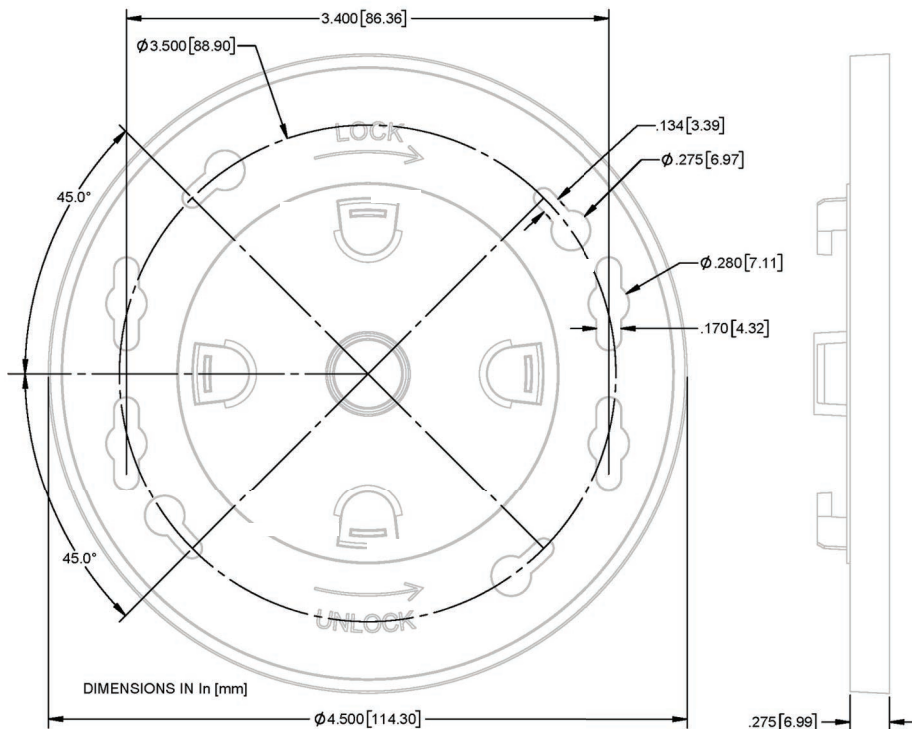

Figure 9. Gateway Mounting Bracket – Dimensions Inches [mm]
2. Get the mounting bracket (see Figure 9) and antenna from the Gateway installation kit. Locate a position on the wall to attach the Gateway mounting bracket.